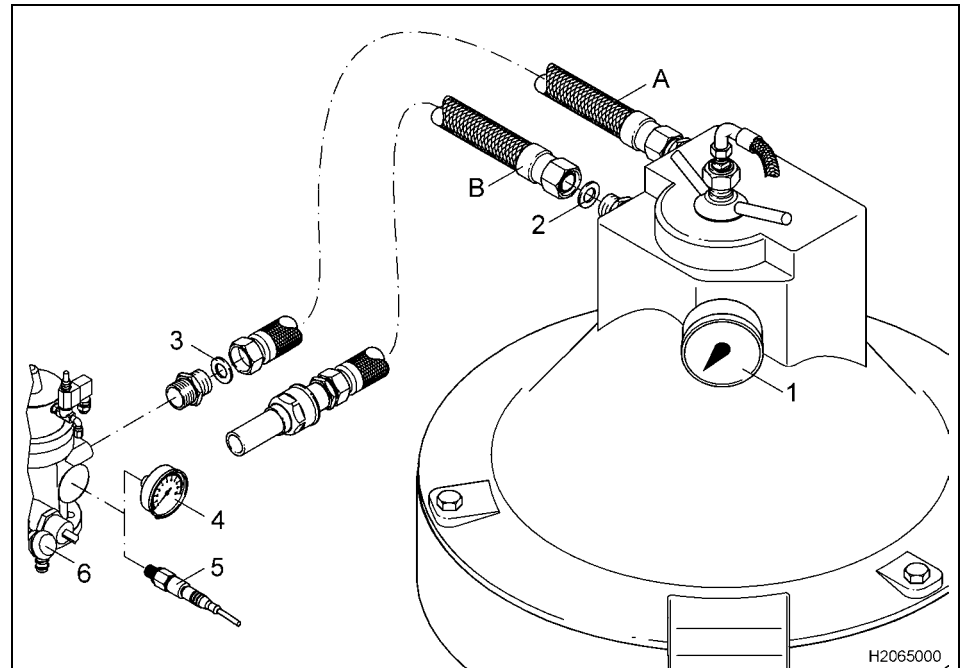

Fig. 76
- During commissioning mark the respective scale area on flowmeter 4 (see Fig. 76 with the sticker supplied).
- Read the value on the scale of flowmeter 4 (see Fig. 76).
The pressure in the discharge line is displayed on pressure gauge 1 (see Fig. 76).